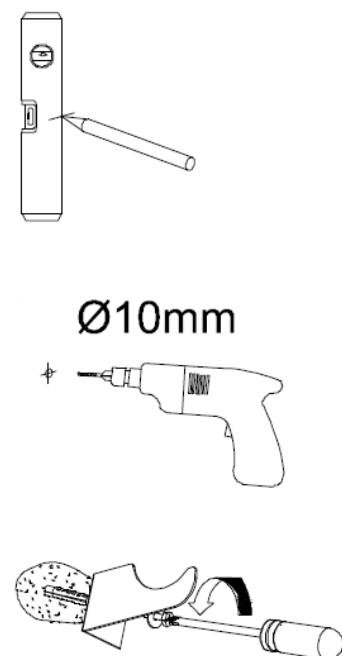

Figure 6 | Fixing without template
- c. Use a tape measure, spirit level and the positions decided in step **a** above to mark the Bracket positions on the wall (see **Figure 6**).